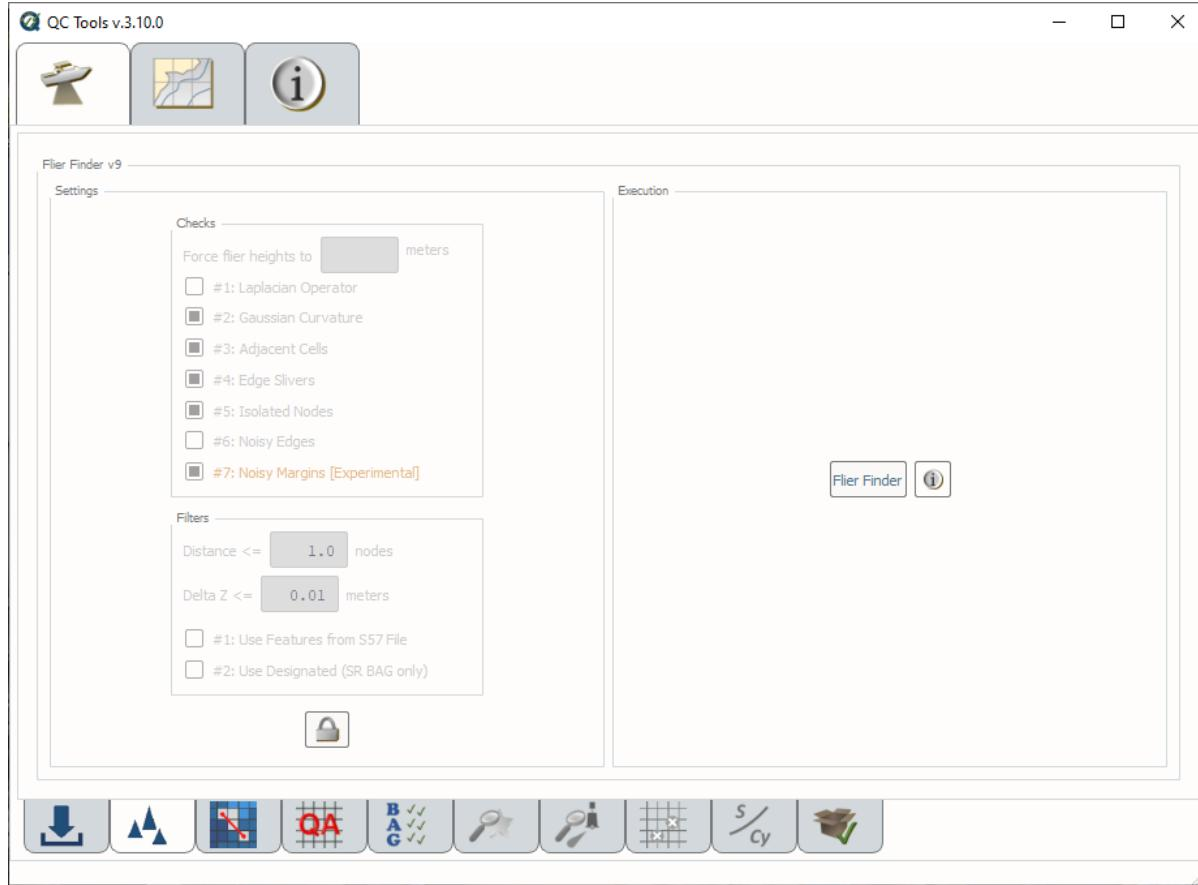

Fig. 2.5: The **Flier Finder** tab.
- Select the **Flier Finder** tab (Fig. 2.5) on the bottom of the QC Tools interface.